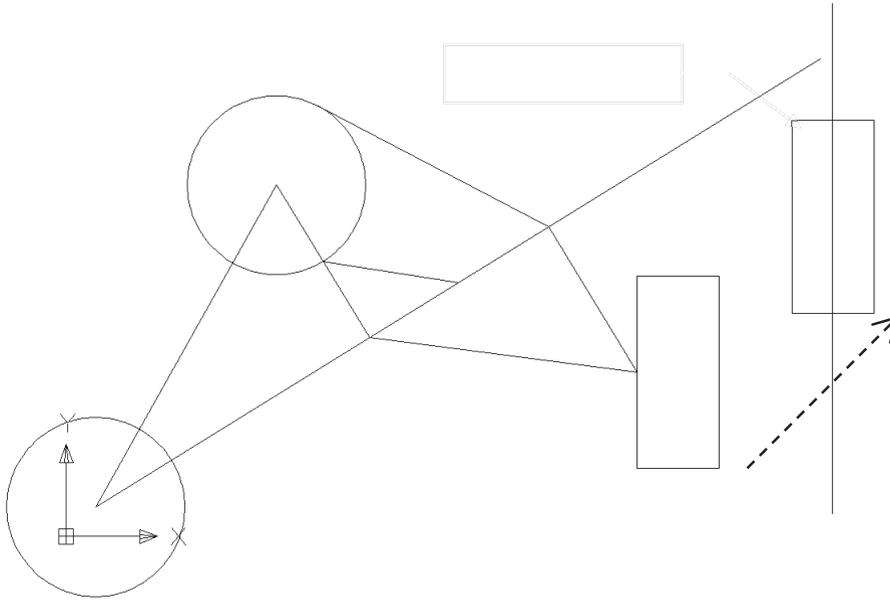

FIGURE 2-3.5 Copied rectangle. Dashed line represents the distance and angle of displacement.
14. *The following will be entered via the on-screen Dynamic Input:* Type **18**, press **Tab**, then type **45** and press **Enter**. (See Figure 2-3.5 and on-screen prompts below.) Finally, press **Enter** to finish the command.
The **Move** command works exactly like the **Copy** command except, of course, you move the entities rather than copy them. Given the similarity to the previous command covered, the **Move** command will not be covered here. You are encouraged to try it yourself. Use the **Undo** command to get back to the drawing shown in Figure 2-3.5 before proceeding if you decide to try the **Move** command.